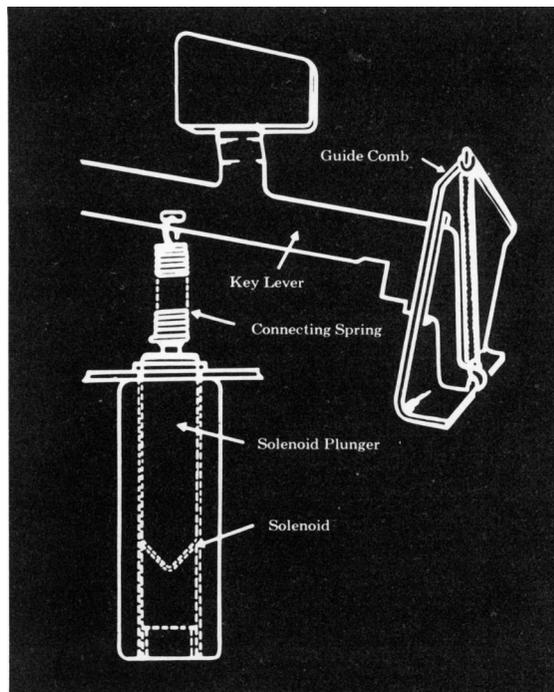

Figure 2
4. The magnet unit coils which activate the typing keys operate on a 25 millisecond minimum pulse. Provision must be made to prevent the continuous energizing of the Carriage Return, Space Bar, and Tab Coils. (Figure 2, page 7.)